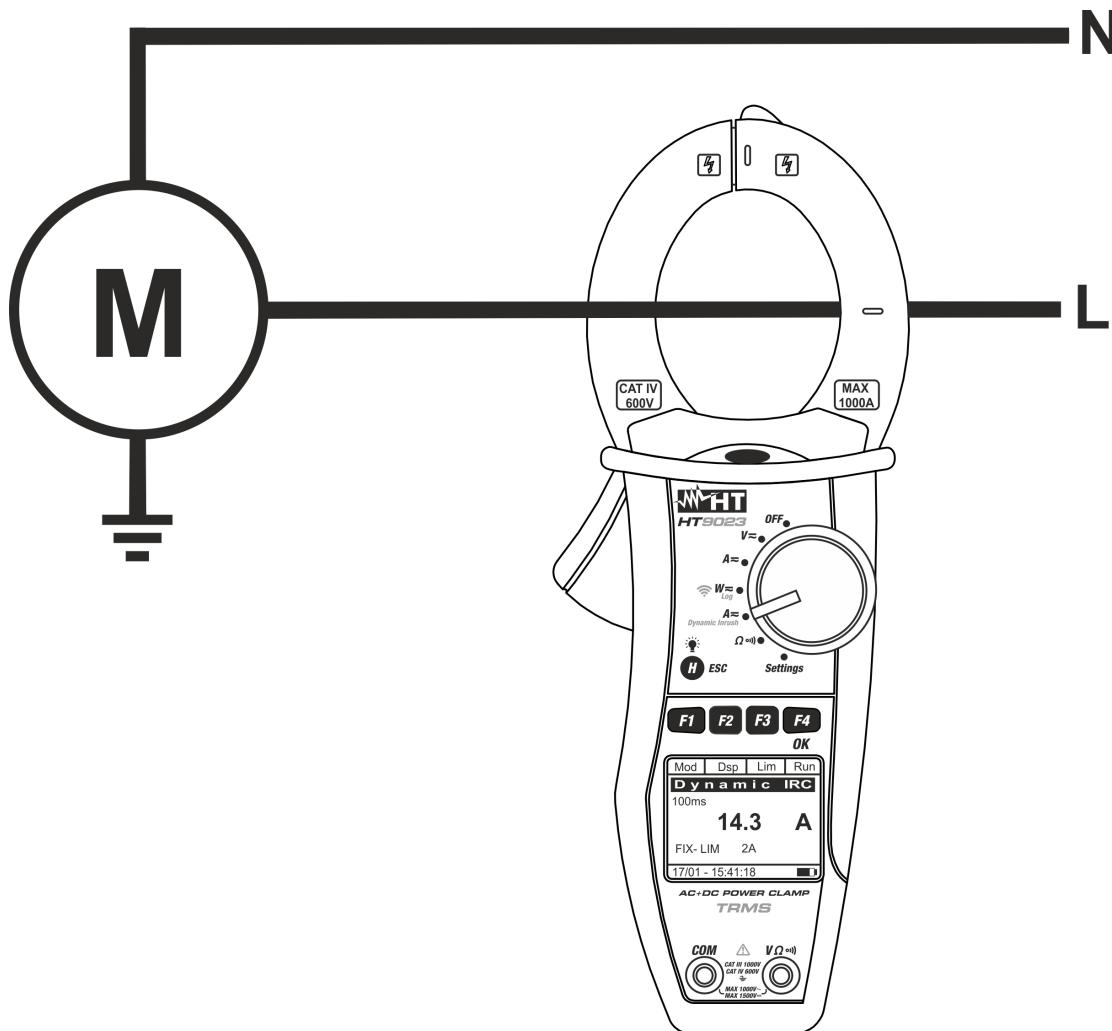

Fig. 11: Dynamic Inrush current measurement
6. Press **F4 (OK)** to confirm and return to main screen
7. Connect the cable to the middle of the clamp jaws, in order to get accurate measurements (see Fig. 11). Use the marks as a reference (see Fig. 2)